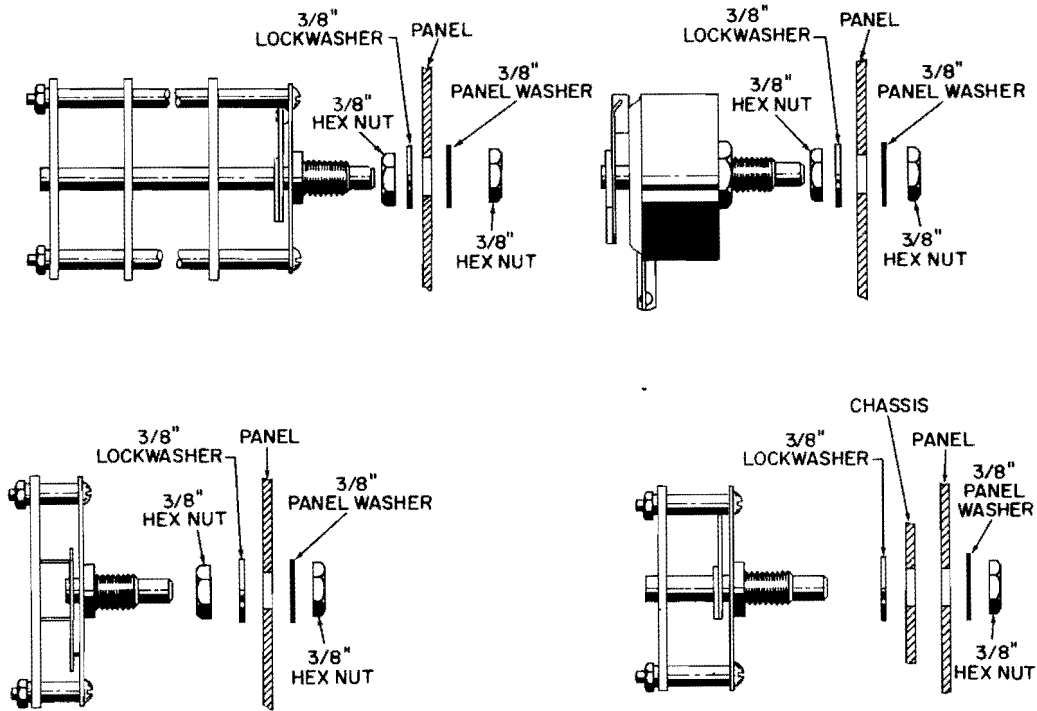

FIGURE 9
- (✓) 40. Mount CA (300Ω, 25-watt ADJUST LINE control) at location CA and position terminals as shown in Figure 5. Use two 3/8" control hex nuts, one 3/8" control lockwasher, and one "Bakelite" panel washer. Also see Figure 9 for method of control and switch mounting.
- (✓) 41. Mount SA (18-position rotary switch) (switch "A") at location SA. Use two 3/8" control hex nuts, one 3/8" control lockwasher, and one "Bakelite" panel washer. See Figure 9. Before tightening panel nut, be sure extension tip of switch rotor is contacting terminal #1 (identified by red dot) as shown in Figure 5. Then position switch so flat side of shaft is directly opposite the "1" marking on the panel. Check by placing one of the large pointer knobs on the shaft and tightening the set screw. Make sure the set screw is tightened against the flat side of the shaft. Reposition switch if pointer does not line up with the "1" marking. Retighten pointer knob on shaft.
Figure 9. Before tightening panel nut, rotate switch so that red dot is located as shown in Figure 5. Then orient switch so that flat side of shaft is directly opposite the NPN "SHORT" marking on the panel. Check by placing one of the large pointer knobs on the panel and tightening the set screw. Make sure the set screw is tightened against the flat side of the shaft. Reposition switch if pointer does not line up with the NPN "SHORT" marking. Retighten pointer knob on shaft.
#### REFER TO FIGURES 9 AND 11.
- (✓) 75. Install switch "B" (P14-286) at location SB. Use a 3/8" control hex nut, 3/8" control lockwasher, and a "Bakelite" panel washer. See Figure 9. Before tightening panel nut, be sure switch is in extreme counterclockwise position. Orient switch so flat side of shaft is directly opposite the "1" marking on the panel. Check by placing one of the large pointer knobs on the shaft and tightening the set screw. Make sure the set screw is tightened against the flat side of the shaft. Reposition switch if pointer does not line up with the "1" marking. Retighten pointer knob on shaft. Check to make sure sufficient clearance has been allowed between switch resistors and side of chassis.
- (✓) 76. Install switch "C" (P14-285) at location SC. Use a 3/8" control hex nut, 3/8" control lockwasher, and a "Bakelite" panel washer. See Figure 9. Before tightening panel nut, be sure switch is in extreme counterclockwise position. Orient switch so flat side of shaft is directly opposite the "1" marking on the panel. Check by placing one of the large pointer knobs on the shaft and tightening the set screw. Make sure the set screw is tightened against the flat side of the shaft. Reposition switch if pointer does not line up with the "1" marking. Retighten pointer knob on shaft. Check to make sure sufficient clearance has been allowed between switch resistors and side of chassis.